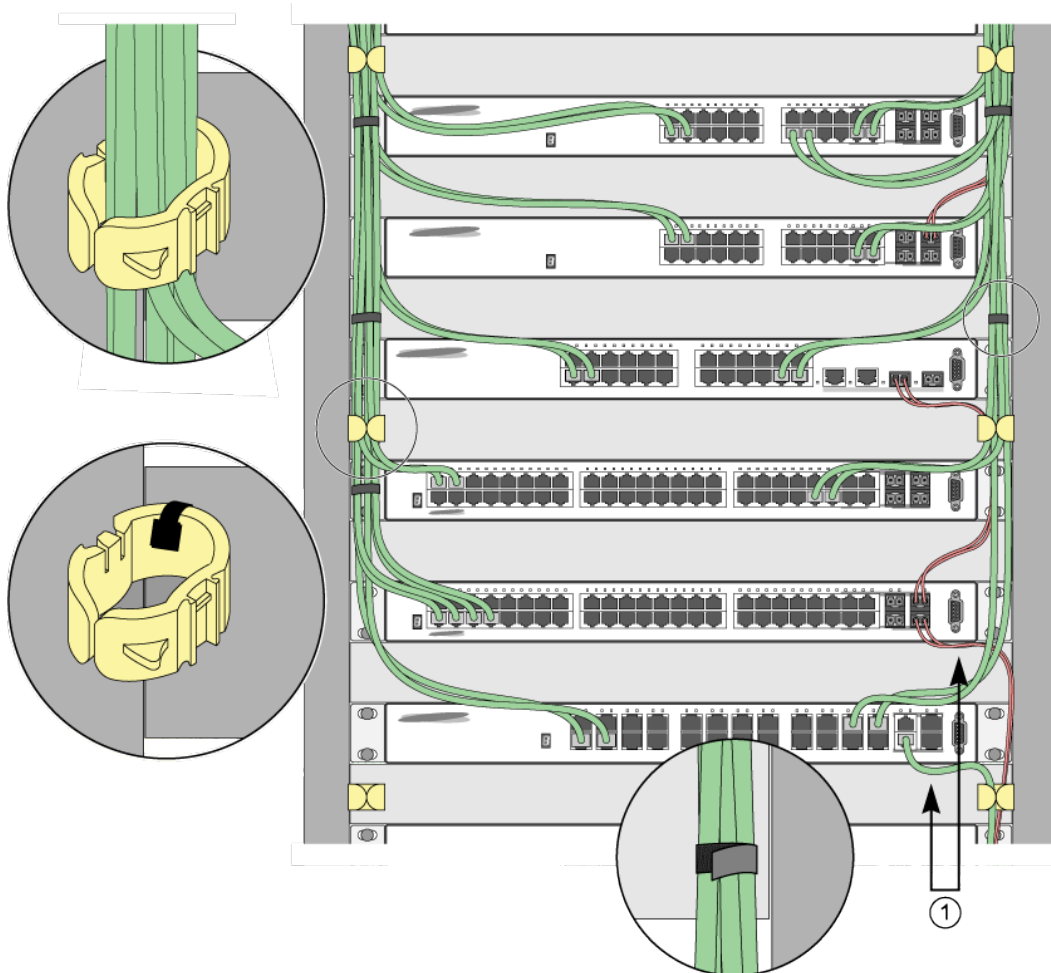

Figure 111: Properly Installed and Bundled Cable
- Provide enough slack, approximately 5 to 7.5 cm (2 to 3 in), to provide proper strain relief as shown in Figure 111 on page 128.
- When installing a patch panel using twisted pair wiring, untwist no more than 2.5 cm (1 in) of the cable to avoid radio frequency (RF) interference.